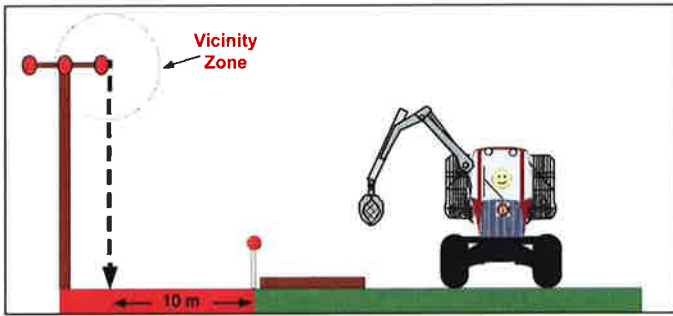

Figure 5: Timber layout and extraction
- Timber must be placed at least 10 m from the OHPL to enable safe extraction when the line is re-energised (see figure 5);
- 46 Do not operate a forwarder or skidder if any part of the machine or its load (product being lifted) is likely to come within 10 m of energised OHPLs. Where necessary, clearly mark the limit of work in relation to the energised OHPLs (see Figure 5). Use high-visibility tape or other markings.